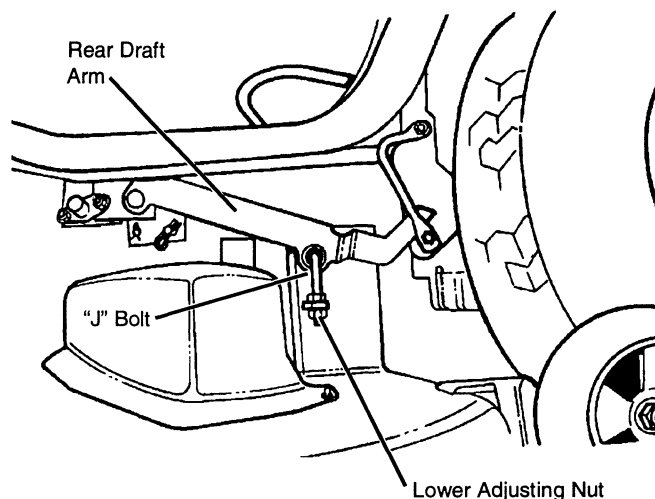

FIG. 44
- Using a 15 mm wrench, loosen top clamping nut on left hand side "J" bolt facing inside of mower approximately 1 turn. (See Fig. 44)